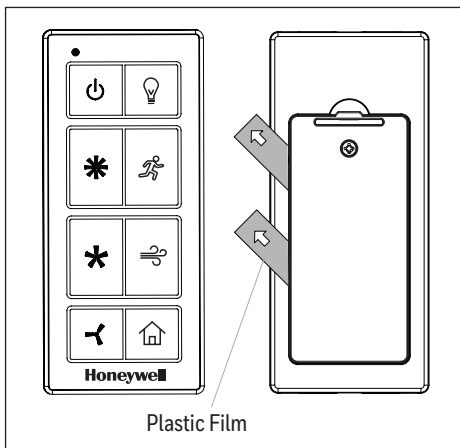

Figure 6.1
- Batteries were preinstalled in the battery compartment of the remote. Pull the plastic film in the direction of the arrow to remove, which will activate the batteries. Press the HIGH SPEED button to ensure the LED indicator illuminates and the fan turns on (Figure 6.1).